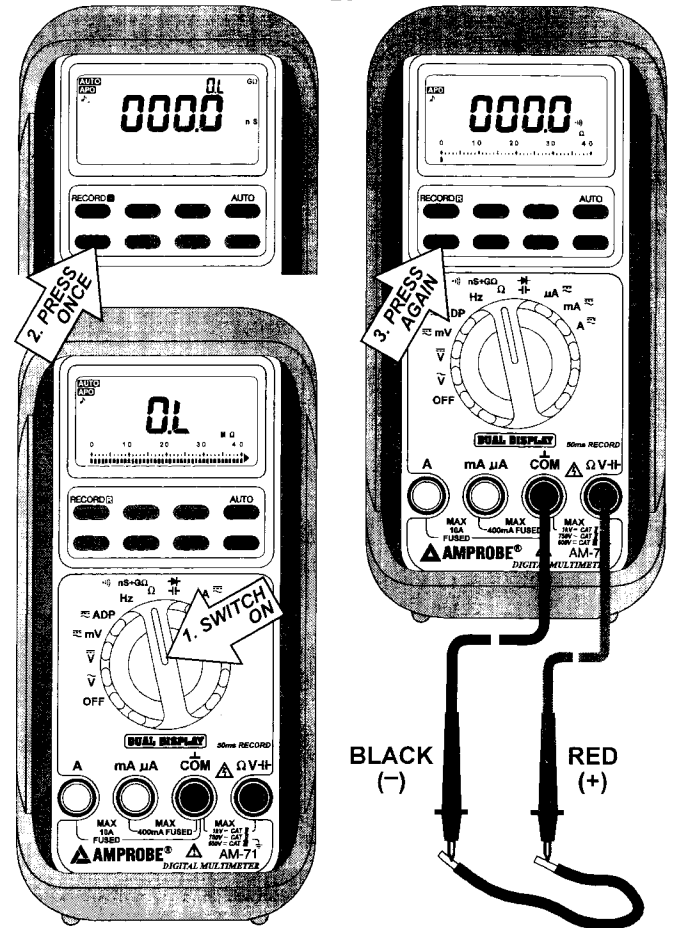

FIG 9.  AUDIBLE CONTINUITY FUNCTION
- 4) Connect the test leads to the end points of wire as shown in **FIG 9**